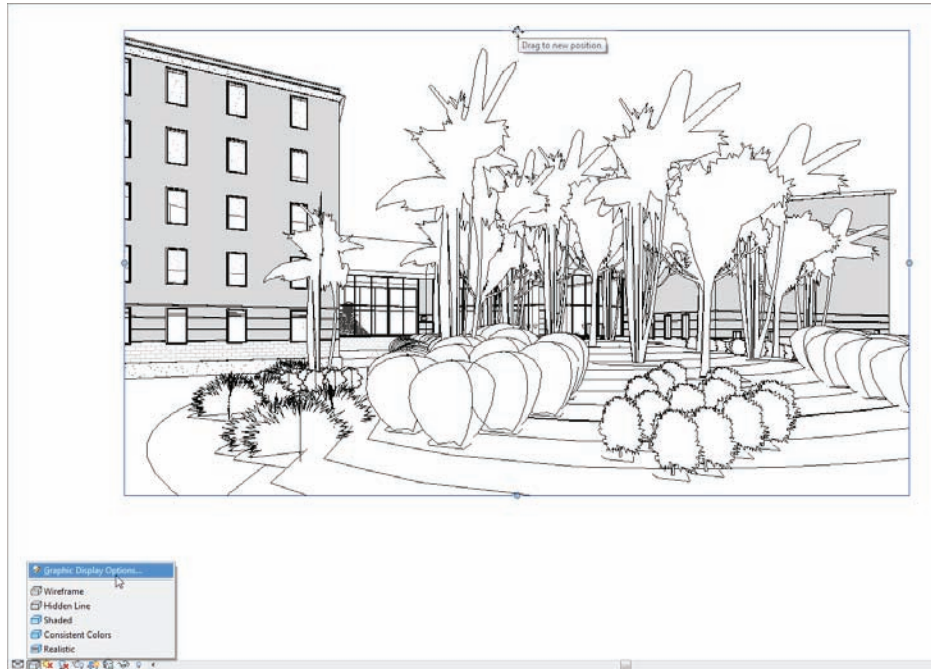

FIGURE 19.2 Selecting Graphic Display Options and changing the crop region
8. Select the crop region, and widen the view as shown in Figure 19.2.
11. In the Properties dialog, click the Edit button in the Graphic Display Options row (see Figure 19.2).